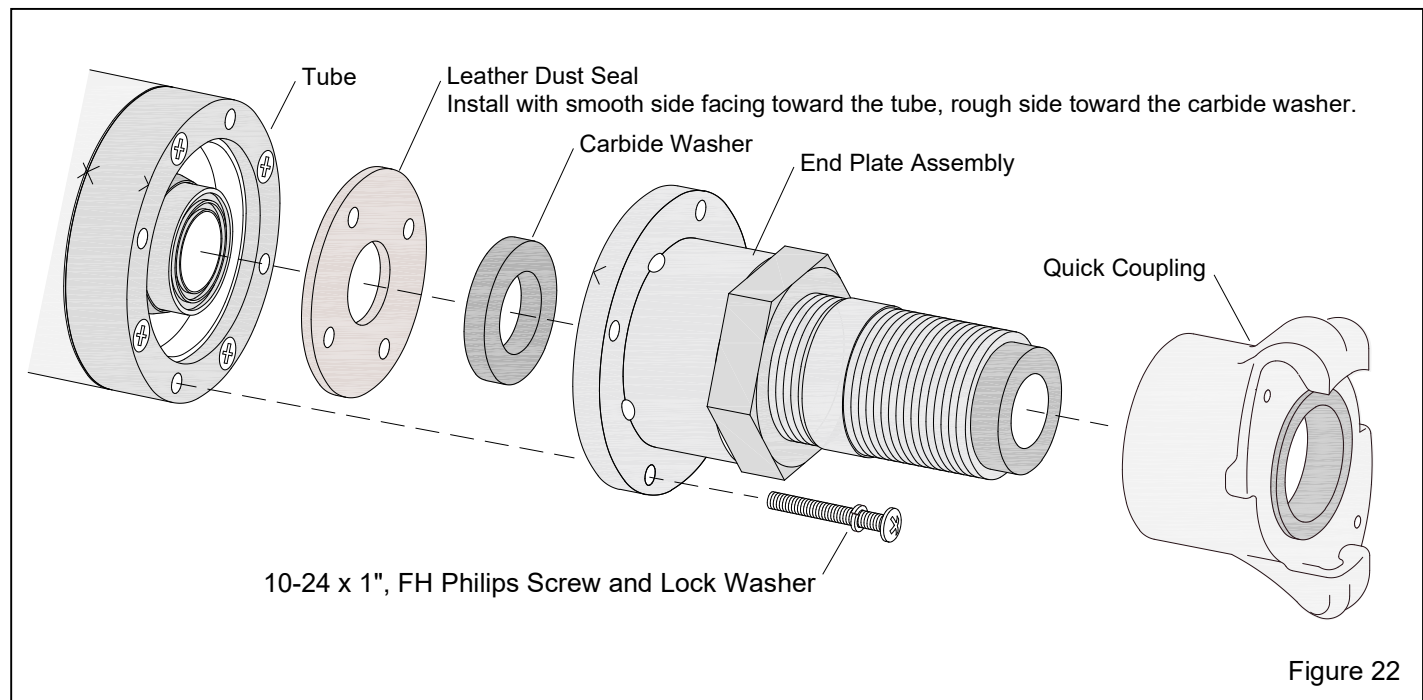

Figure 22
**9.7.2.8** Place the carbide washer on the leather seal, as shown in Figure 22.